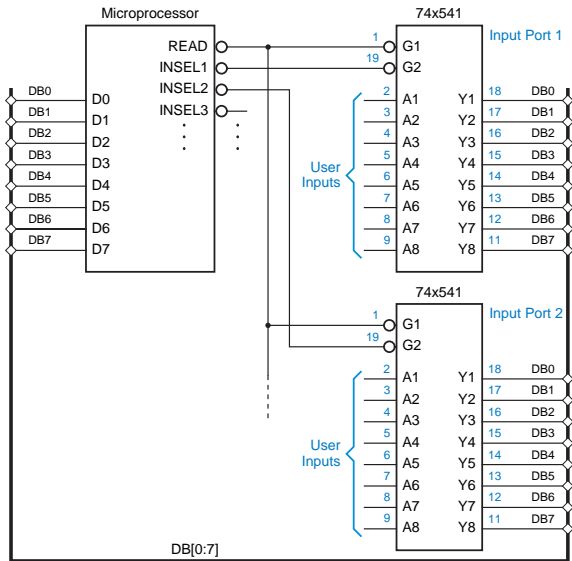

Figure 21: Using a 74x541 as a microprocessor input port.
- In Fig. 21, microprocessor selects Input Port 1 (top 74x541) by asserting INSEL1 and requests a read operation by asserting READ